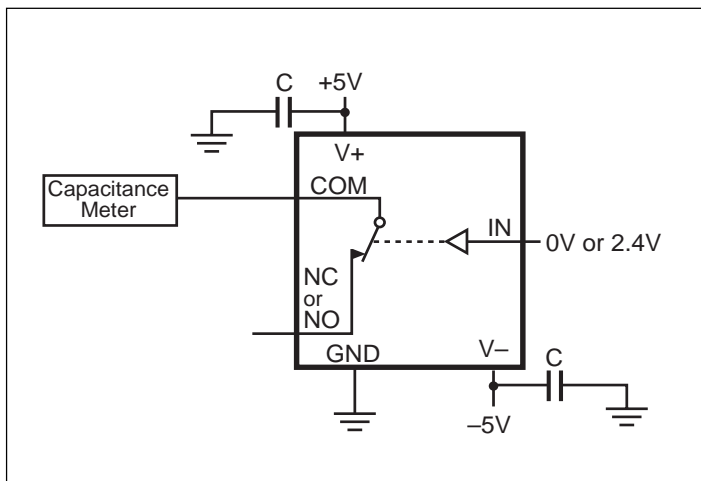

Figure 3. Channel Off Capacitance
- Between any two switches. See Figure 3.